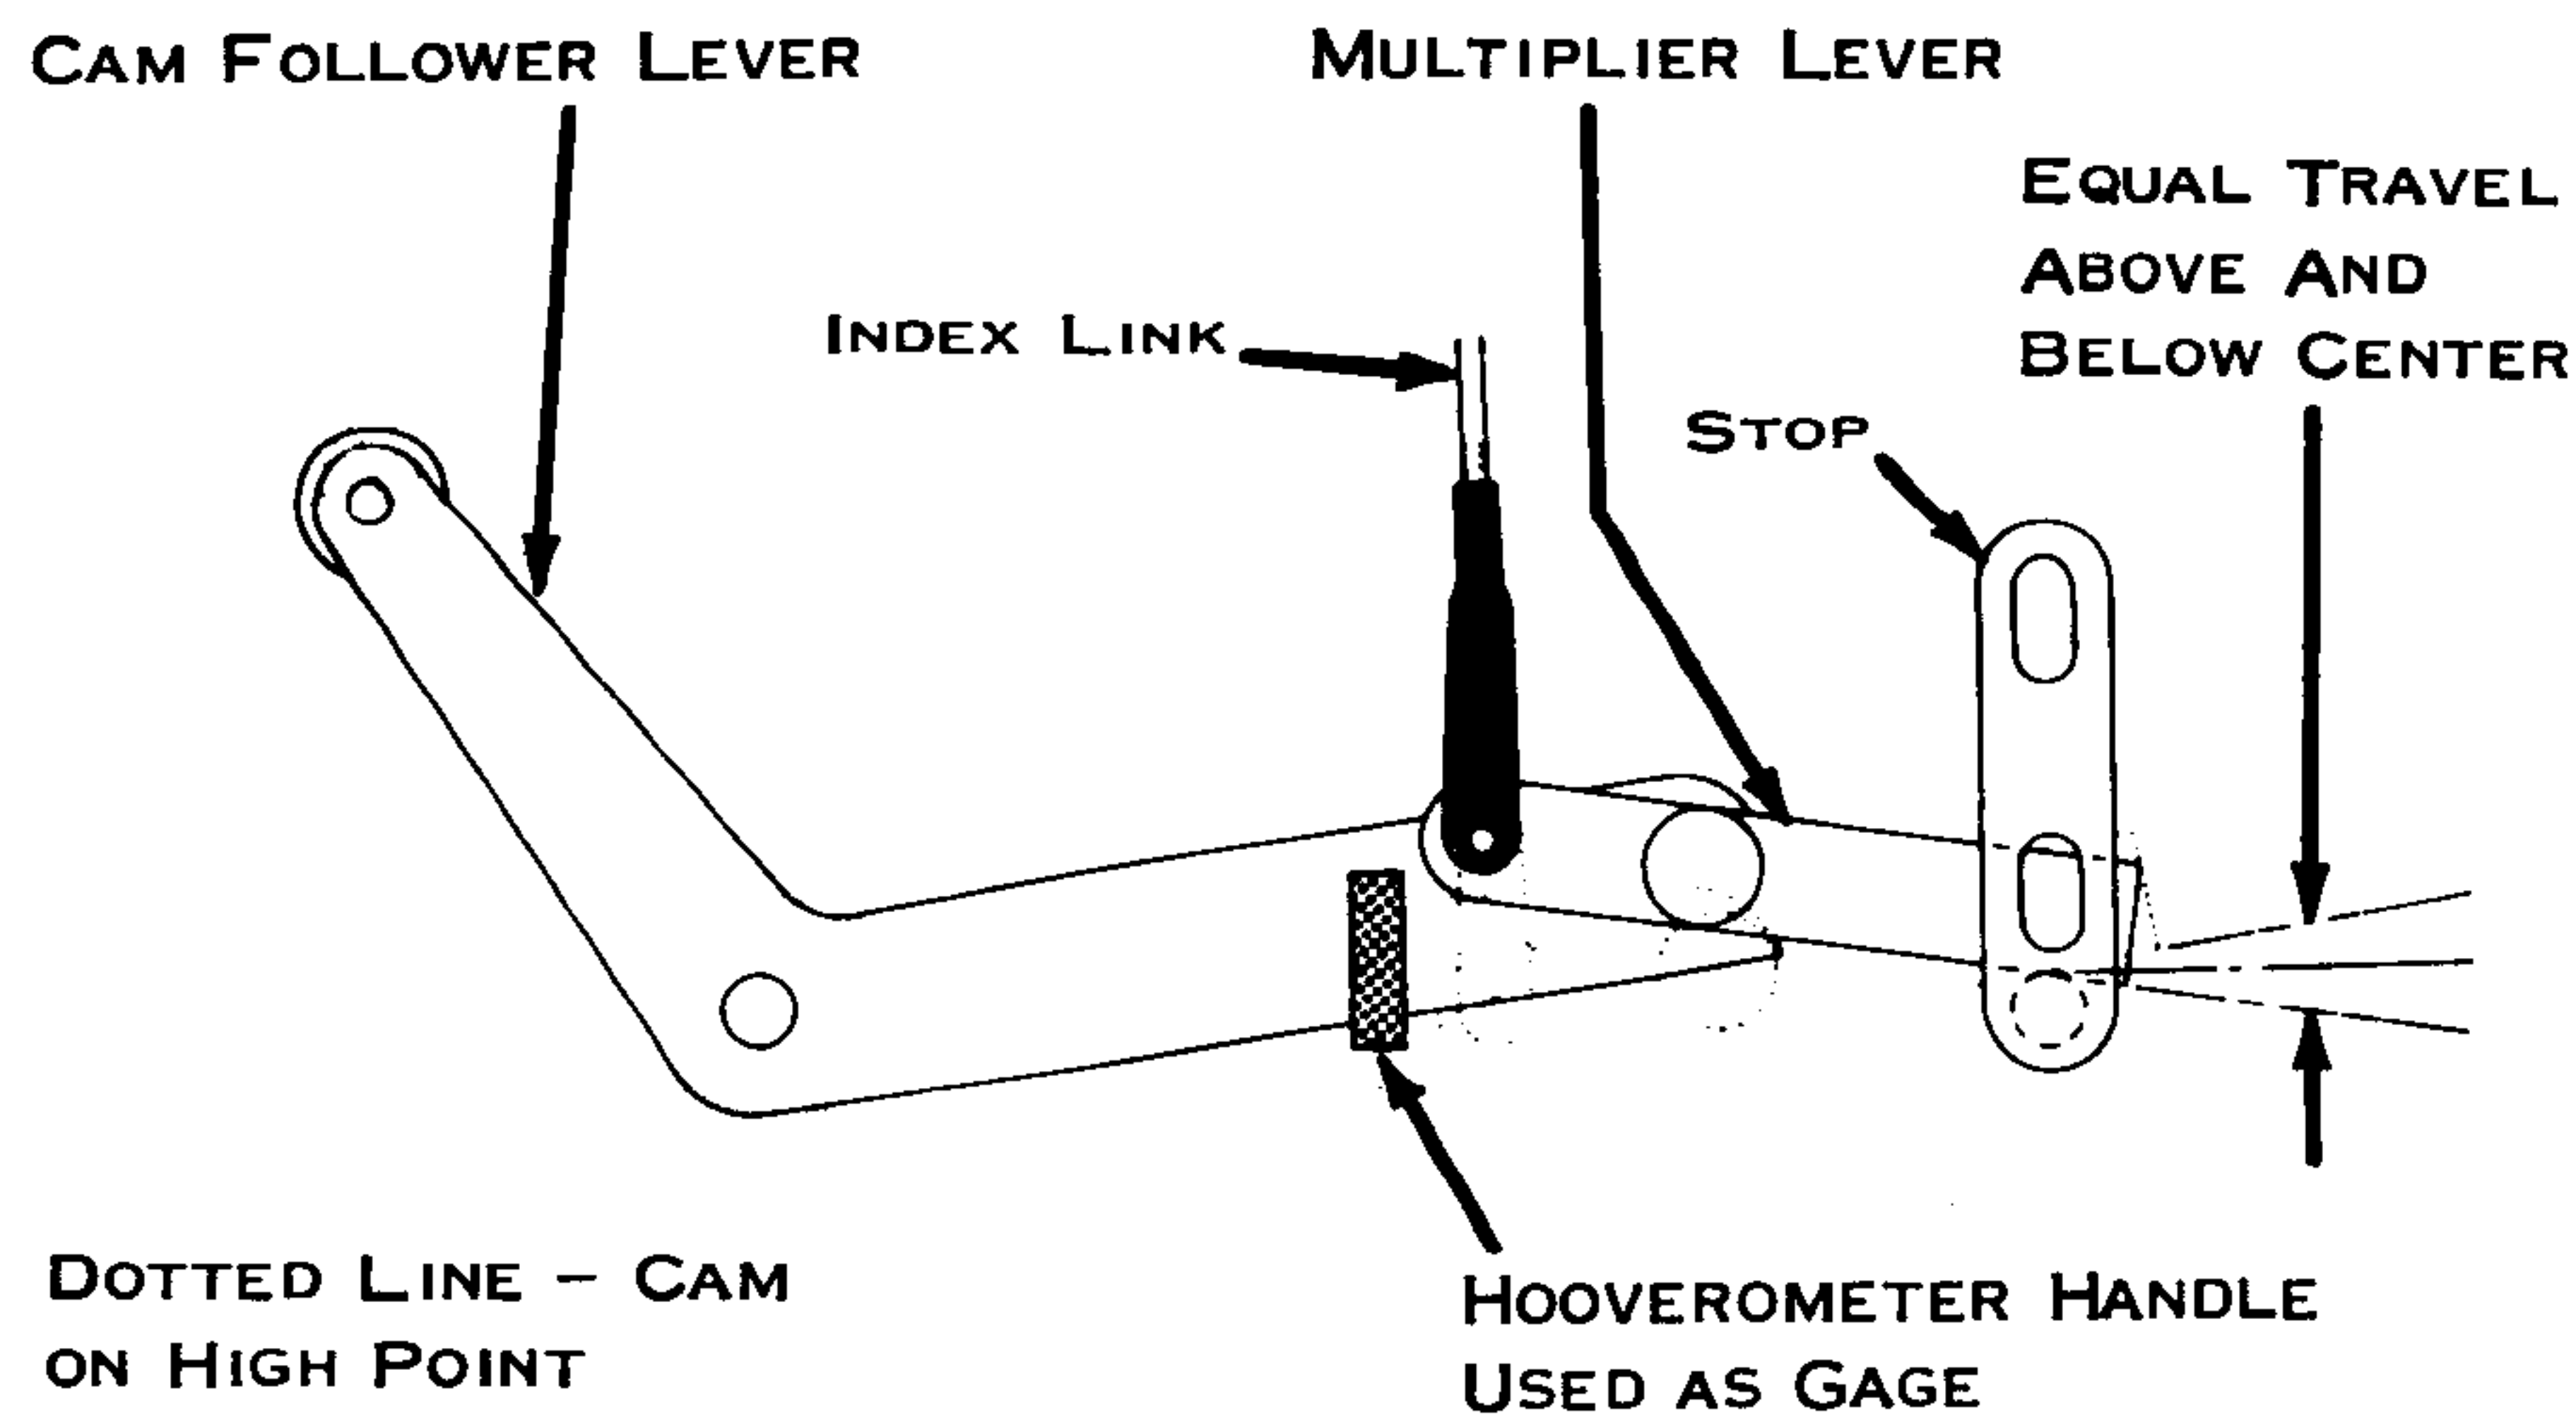

Figure 203. Multiplying Lever Stop
- a. New Style (Fig. 203) - Position (front to rear) until the vertical motion of the index link is .360" to .375" as the index cam is rotated from the low to high point.